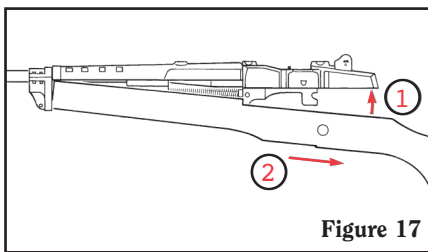

Figure 17
- Remove barrel/receiver assembly from stock by lifting the rear of the assembly out of the stock and then pulling the stock rearward out of engagement with the gas block. (See Figure 17.)